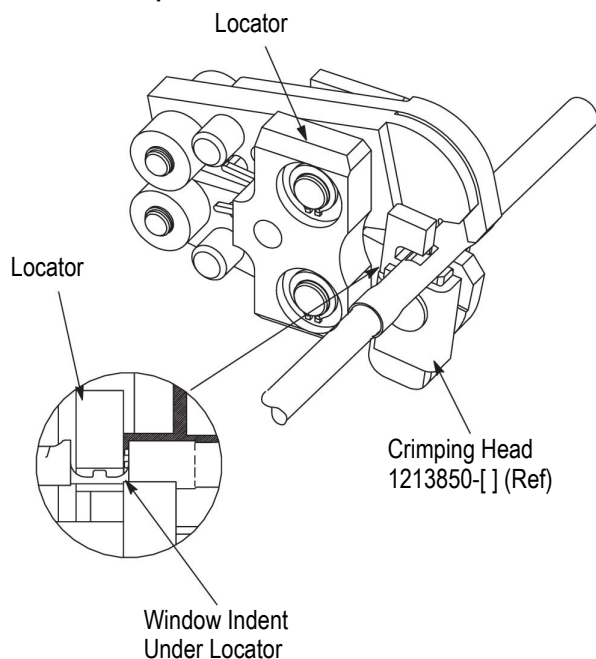

Figure 4
2. Open the crimping jaws by squeezing the rollers together simultaneously. Position the splice between the crimping jaws so that the window indent of the splice slides under the locator of the crimping head. See Figure 4, Detail A. For best results, when brazed seam on the splice is visible, position the seam toward the "W" shaped jaw.
3. Insert the stripped wire into the wire barrel until the end of the conductor is positioned against the splice wire stop. See Figure 4, Detail A.
5. To crimp the other half of the splice, reposition uncrimped half in the crimping jaws. Repeat Steps 1 through 4 to complete the crimp. See Figure 4, Detail B.